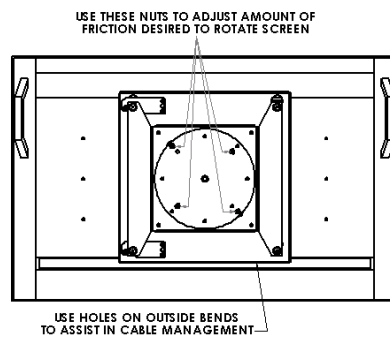

Figure 7
5. Set desired amount of friction for rotating screen by tightening or loosening nuts (4) on back side of CH-SPAC400. (See Figure 7).
10. Use holes on outside bends to tie wires for cable management. (See Figure 7).